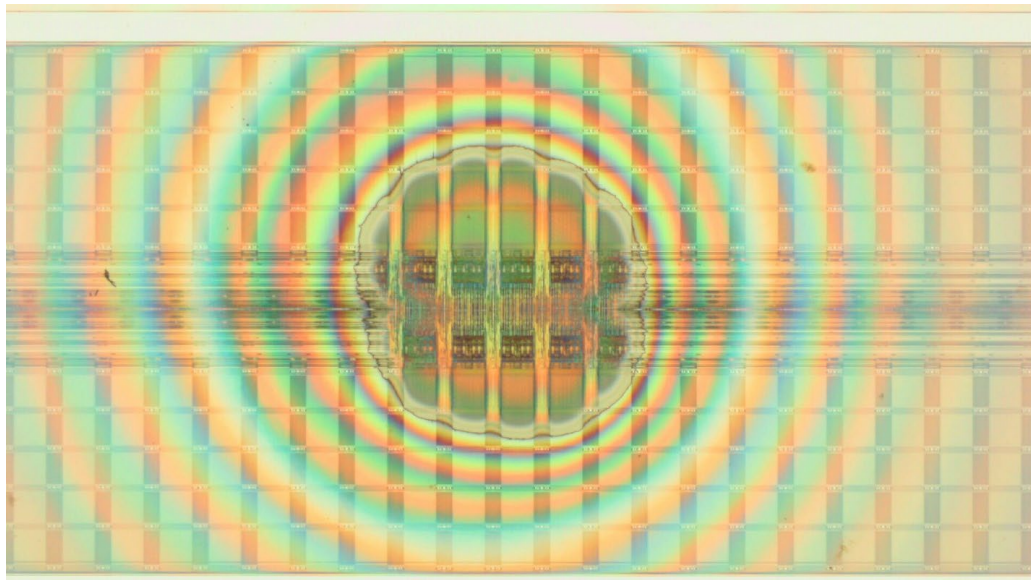

Figure 10: Inspection Image shows Passivation and Top Metal Removed
- 13. Inspect progress as necessary by stopping the PELCO® Dimpler™, removing the sample, platen, and base from the stage and rinsing the sample and platen assembly for at least 15 seconds under moving water. Use nitrogen gas or particle-free air to dry the sample. This is best achieved by directing the air in a single direction at about 5° above parallel to the sample. Once dry, you may inspect progress using the inspection or binocular microscope (*Figure 10*).